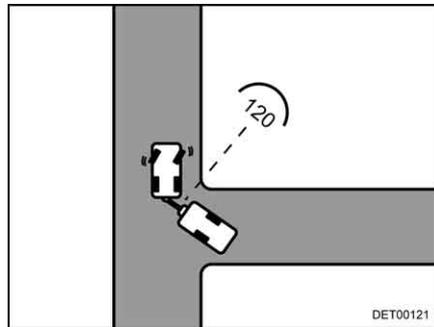

Fig. 16 Approach
- As soon as both vehicles are at an approximate angle of 120° to each other, come to a stop (Fig. 16).